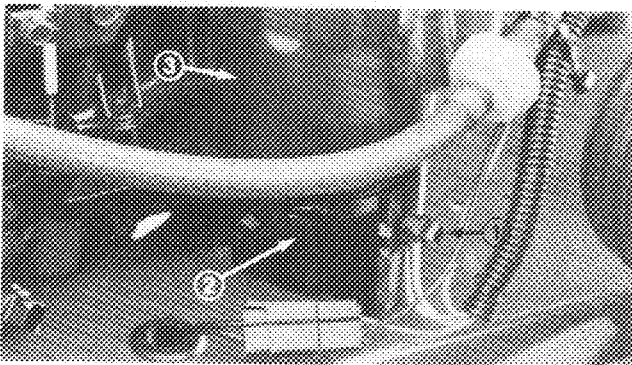

Figure 16
- Remove the oil filter drain plug located at the base of the oil filter adapter (Fig. 16). Drain oil into pan.